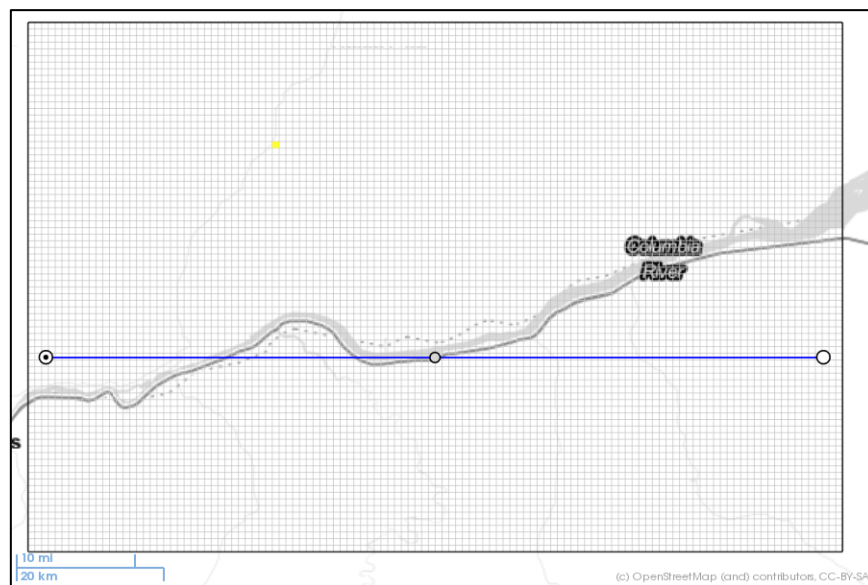

Figure 18. A polyline shown on the map viewer
- **Add Polyline:** Select this option to add a polyline to the map (Figure 18). The polyline is centered at the clicked location and extends to the east and west boundaries of the current view.